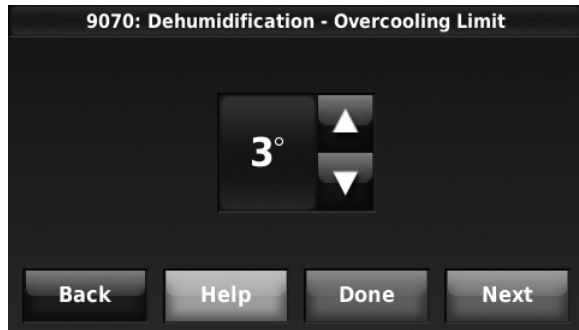

Fig. 225.
6. Set the Overcooling Limit. See Fig. 225. Options: